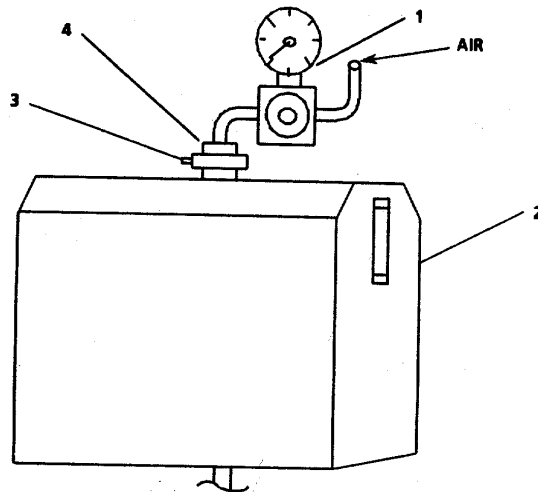

FIGURE 2-7a. Pressure Test Cooling System.
- (1) Remove oil pan and adapter group (para. 2-36).
- (2) Ensure coolant is at proper level.
- (3) Remove and plug expansion tank overflow tube (3, FIG. 2-7a).